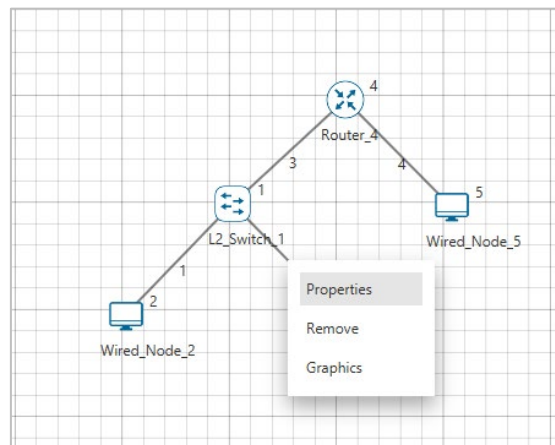

Figure 3-19: Right click on the device and select properties
Step 1: To configure any device, right click on the device and select properties as shown Figure 3-19.